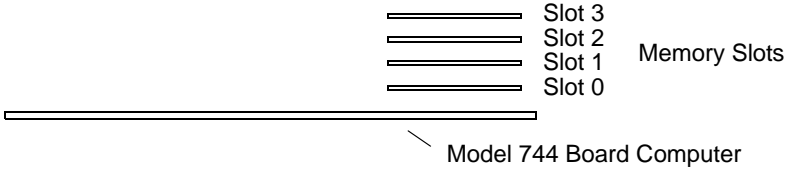

Figure 3-1 Model 744 Memory Slots
- 2 To determine the maximum current usage of the Model 744 memory cards, you will need to use Figure 3-1 and Table 3-1 (for Model 744/132L) or Table 3-2 (for Model 744/165L). You must work with the worst case power draw to correctly determine power usage. Determine worst case power draw by examining active memory bank configurations, using the following steps: